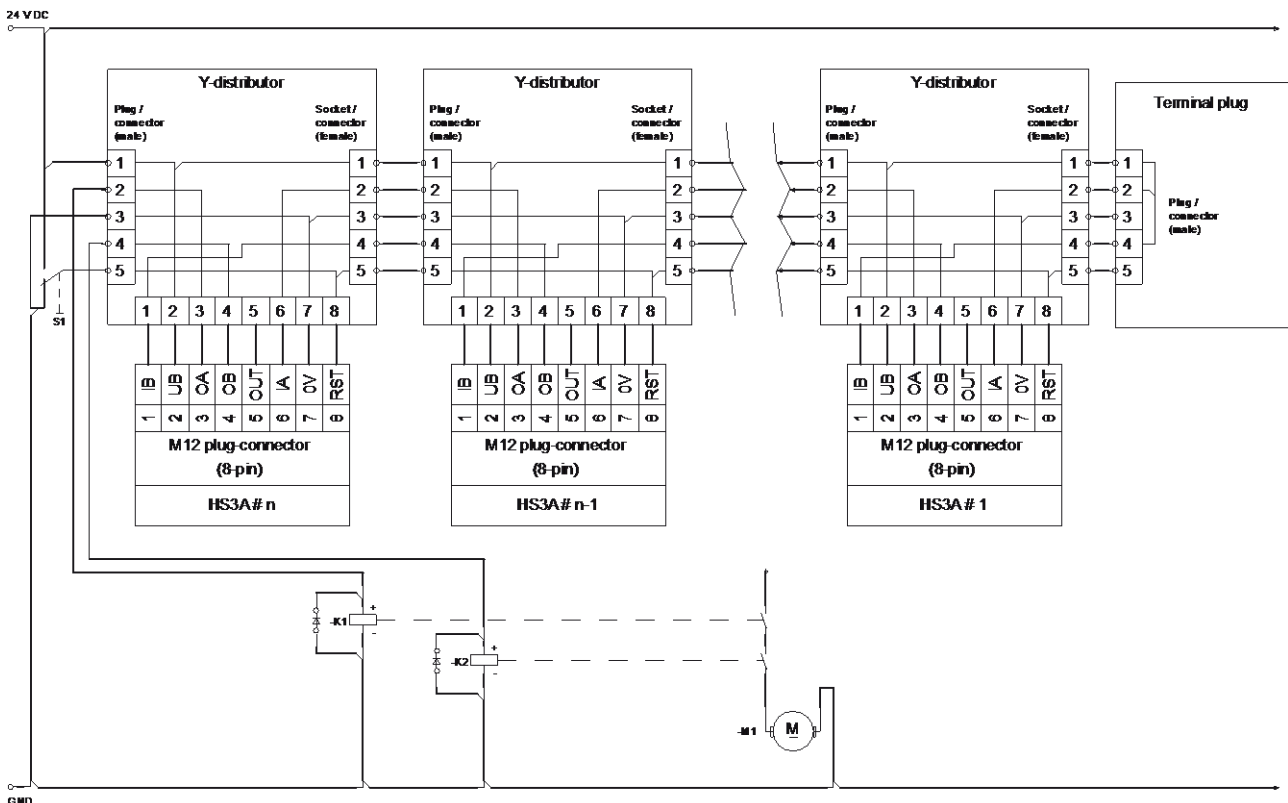

Figure 9: Connection example for series connection
- ▶ A common signal must be used for all switches in the chain. This can be a changeover switch or the output of a control system. A button is not suitable because Reset must always be connected to GND during operation (see switch S1 in Figure 9).
Input RST must be connected as shown in *Figure 9 on page 19* to permit this.